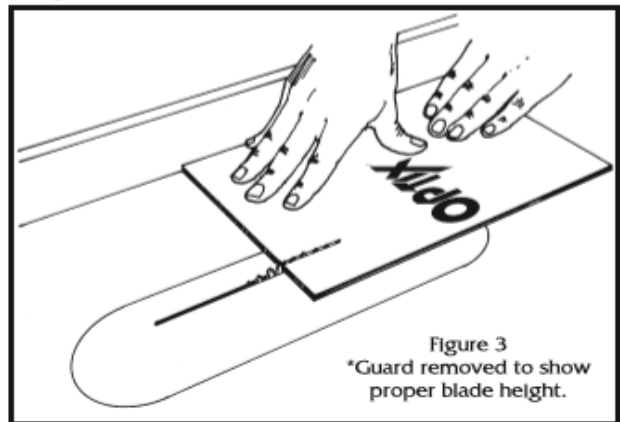

Figure 3
**Table, and Panel saws** are the best options for high volume straight cuts. Material can be stacked to cut several sheets at one time. When cutting, the saw blade should protrude through the sheet approximately 1/4" (See Fig. 3). Saw blades, specifically designed for cutting acrylic sheet, are commercially available.